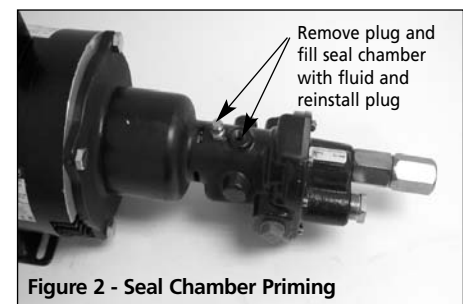

Figure 2 - Seal Chamber Priming
1. All pumps must be primed before start-up and the seal chamber needs to be filled (See Figure 2). Never operate a pump unless it is secured to a solid foundation and all safety shields are installed.
- a. For fluids with viscosities less than 2000 SSU, a flush is not necessary, but the seal cavity must be pre-filled with either the operating fluid or a neutral fluid. This is to ensure seal cooling and lubrication during start-up (See Figure 2).